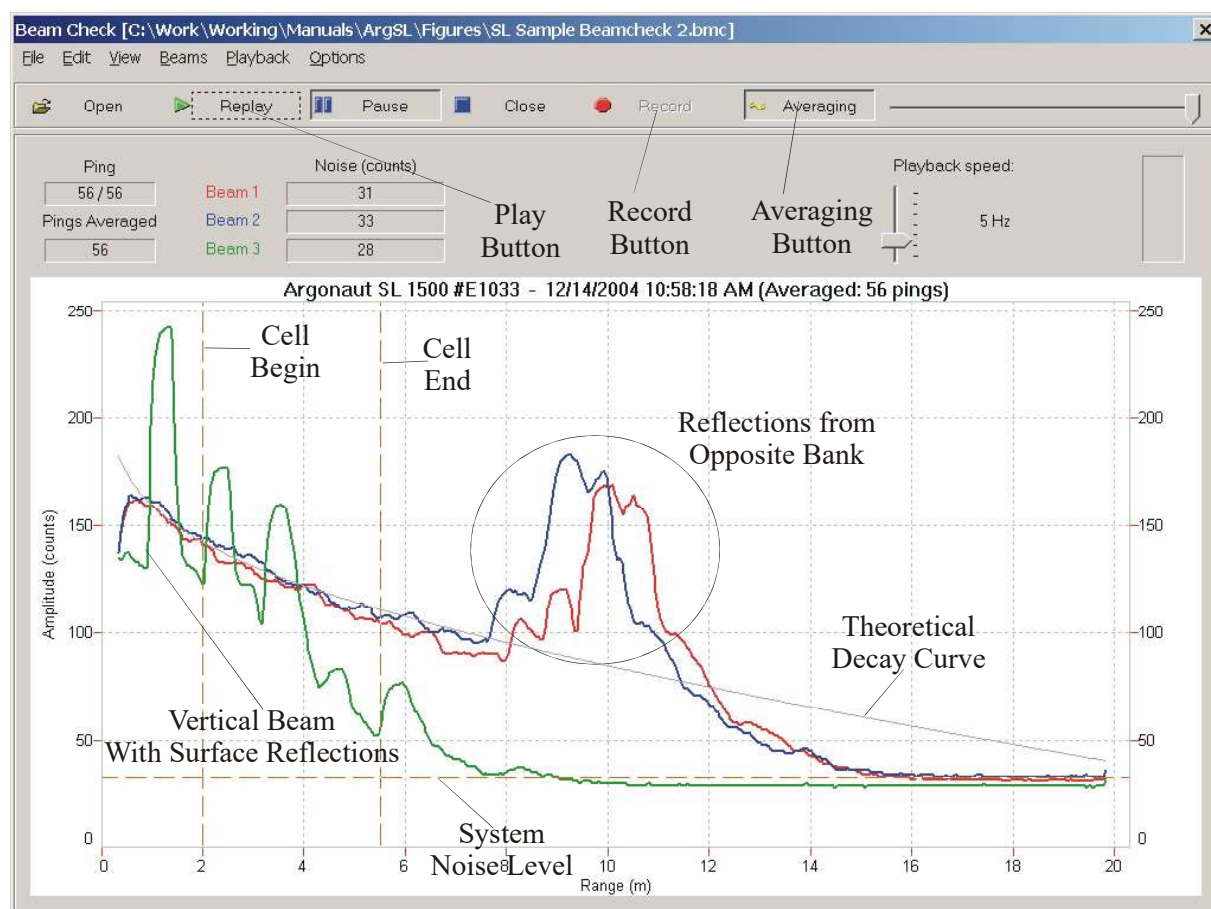

Figure 5-24. Beam Check Sample Output #2
Figure 5-24 (Beam Check in *SonUtils*) shows a sample output from an SL installation. Detailed analysis of this example is given here. For other examples, see Sample Output Description #1 (page 63) and Sample Output Description #3 (page 66).
- Acoustic signal strength is an indicator of the maximum measurement range of the system. In this example (Figure 5-24), the signal strength is well above the noise floor for the entire measurement range.